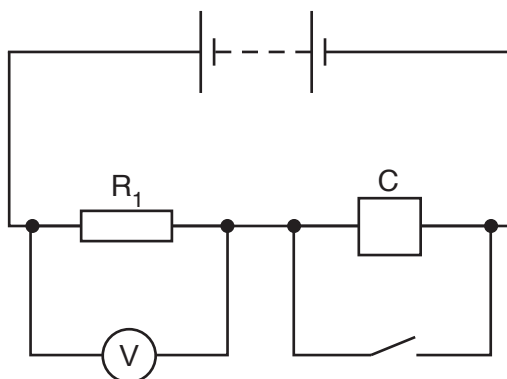

Fig. 2.1
- connecting leads to enable the supervisor to set up the circuit shown in Fig. 2.1.
At the changeover the supervisor must ensure that the apparatus is restored to the arrangement shown in Fig. 2.1.